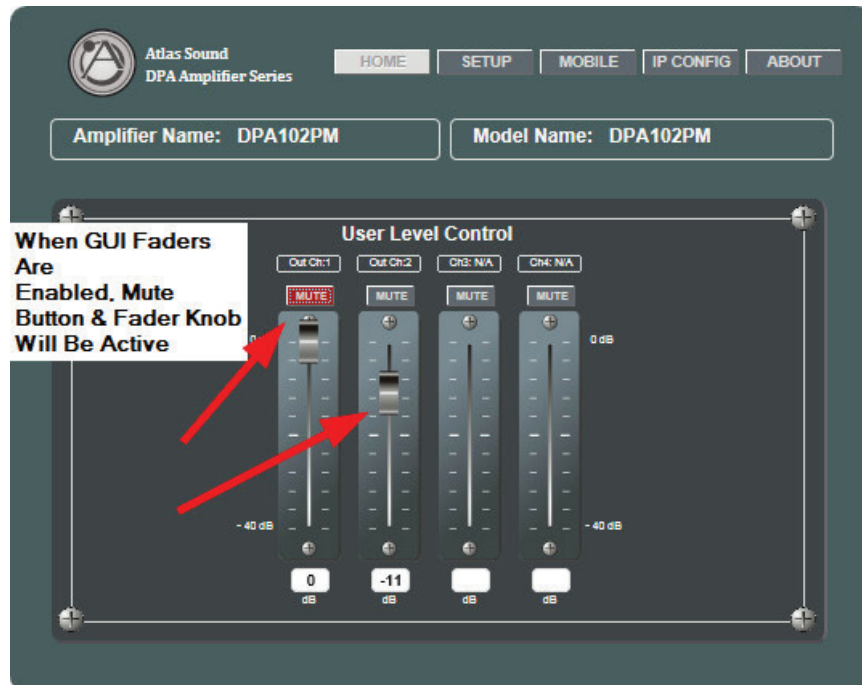

Figure 6
3. If the GUI looks like Figure 6. The GUI faders are enabled and the front Panel level controls are disabled.